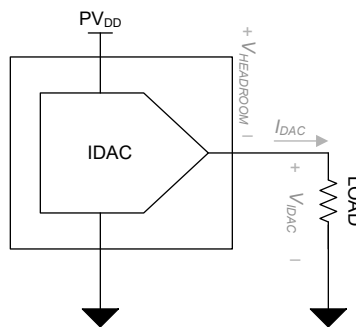

Figure 8-2. IDAC Power Dissipation
- The power dissipation of the IDAC channel is a function of the PV_{DD} supply voltage, the current output, and the voltage of the IDAC pin (V_{IDAC}). The headroom voltage ($V_{HEADROOM}$) is calculated as the difference between PV_{DD} and V_{IDAC} . Minimize $V_{HEADROOM}$ to reduce the power dissipation of the device while also meeting the minimum $V_{HEADROOM}$ requirement. The IDAC output cannot source the full-scale current output if $V_{HEADROOM}$ is lower than the specified voltage. Figure 8-2 shows the output current directions and the key voltages that impact power dissipation. The IDAC output contributes to power dissipation proportionally to the output current multiplied by the $V_{HEADROOM}$ voltage.